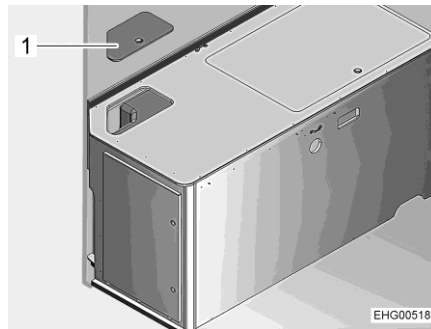

Fig. 112 Bedding box on the left
- Remove the service cover (Fig. 112,1).